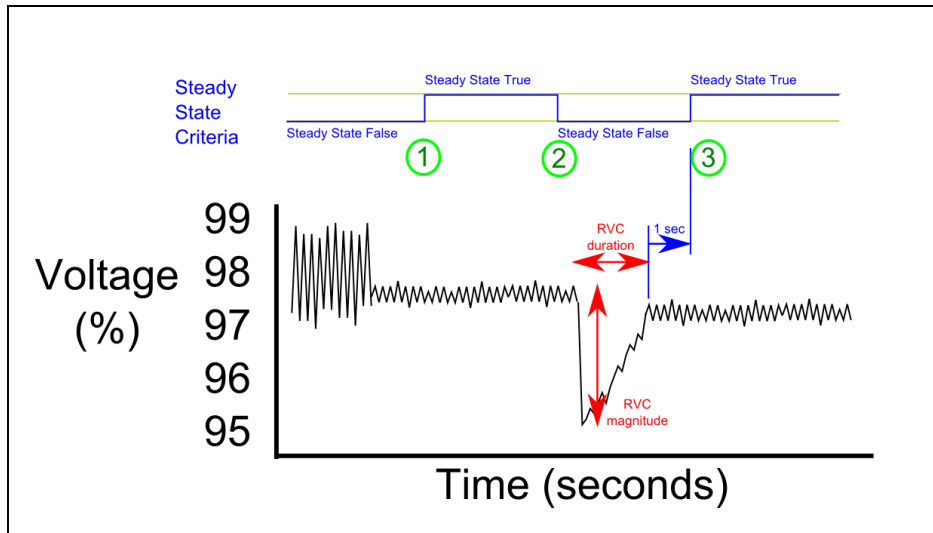

Figure 4. 'Rapid Voltage Change' defined.
Figure 4 is provided to give an illustration of a RVC event. The first steady state true condition (1) occurs after nominal voltage variations have been within the 1 % tolerance for 1 second. This steady state ends (2) when voltage variation exceeds the 1 % setting. A second steady state condition occurs at (3) as voltage variations returned to within 1 % tolerance for at least 1 second. As the maximum magnitude of the change occurring between the two steady states was a) greater than the 5 % detection limit and b) less than the dip/swell setting, this event is classified as a RVC, with its duration and magnitude being recorded.